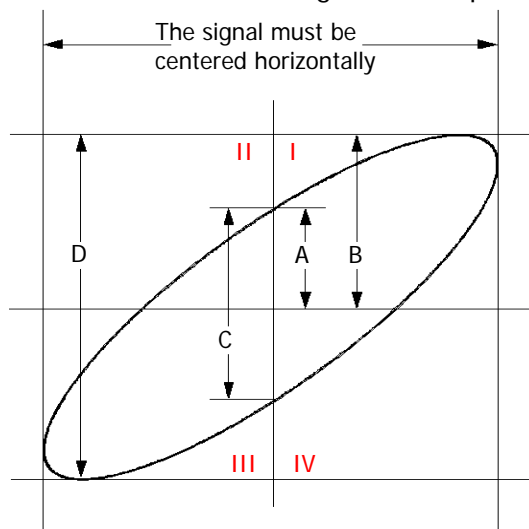

Figure 3-2 Measurement Schematic Diagram of Phase Deviation
5. Observe the measurement result shown in the figure above. According to the measurement schematic diagram of the phase deviation (as shown in Figure 3-2),  $A/B$  ( $C/D$ ) = 1. Thus, the phase deviation angle  $\theta=\pm\arcsin 1=90^\circ$ .